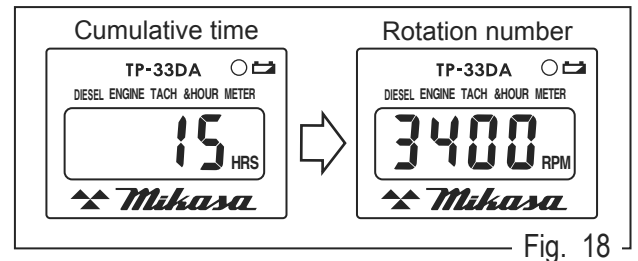

Fig. 18
- d. If the engine starts, the “Engine RPM” will appear on the Tach/Hour meter. (Fig. 18) Once the engine speed increases, the buzzer stops. The engine comes with a safety starter switch. If the travel lever is not in the stop position, the cell starter will not work.